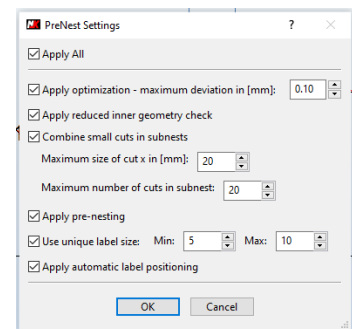

Figure 147
7. The appearing PreNest Settings Dialog can be confirmed without any further changes with  (Figure 147).